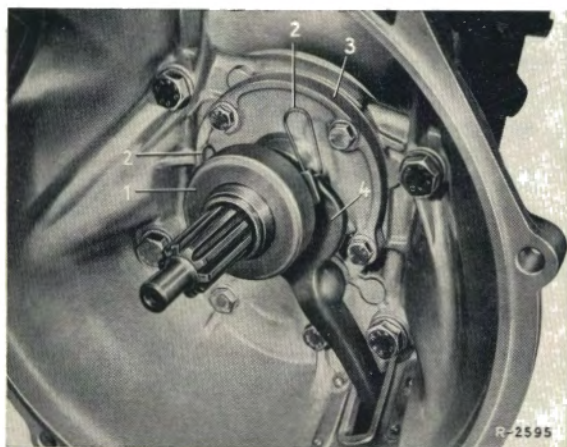

Fig. 25-5/1
2. Press the spring clips (2) out of the throw-out fork (4) toward the rear and pull them out upward (Fig. 25-5/1).